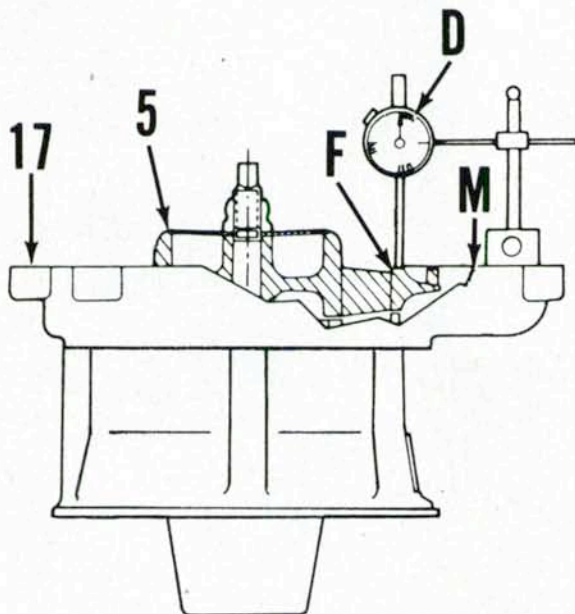

Fig. 135—View showing dial indicator placement to determine fan wheel shim thickness. Refer to text.
With fan, bearings and shaft components assembled, mount a dial indicator on turbine housing as shown in Fig. 135. Zero the dial gage on mating surface (M) of housing, then reposition dial gage to contact fan wheel at surface (F). Rotate the fan wheel and take measurements at four different locations, then average the readings. The average difference in